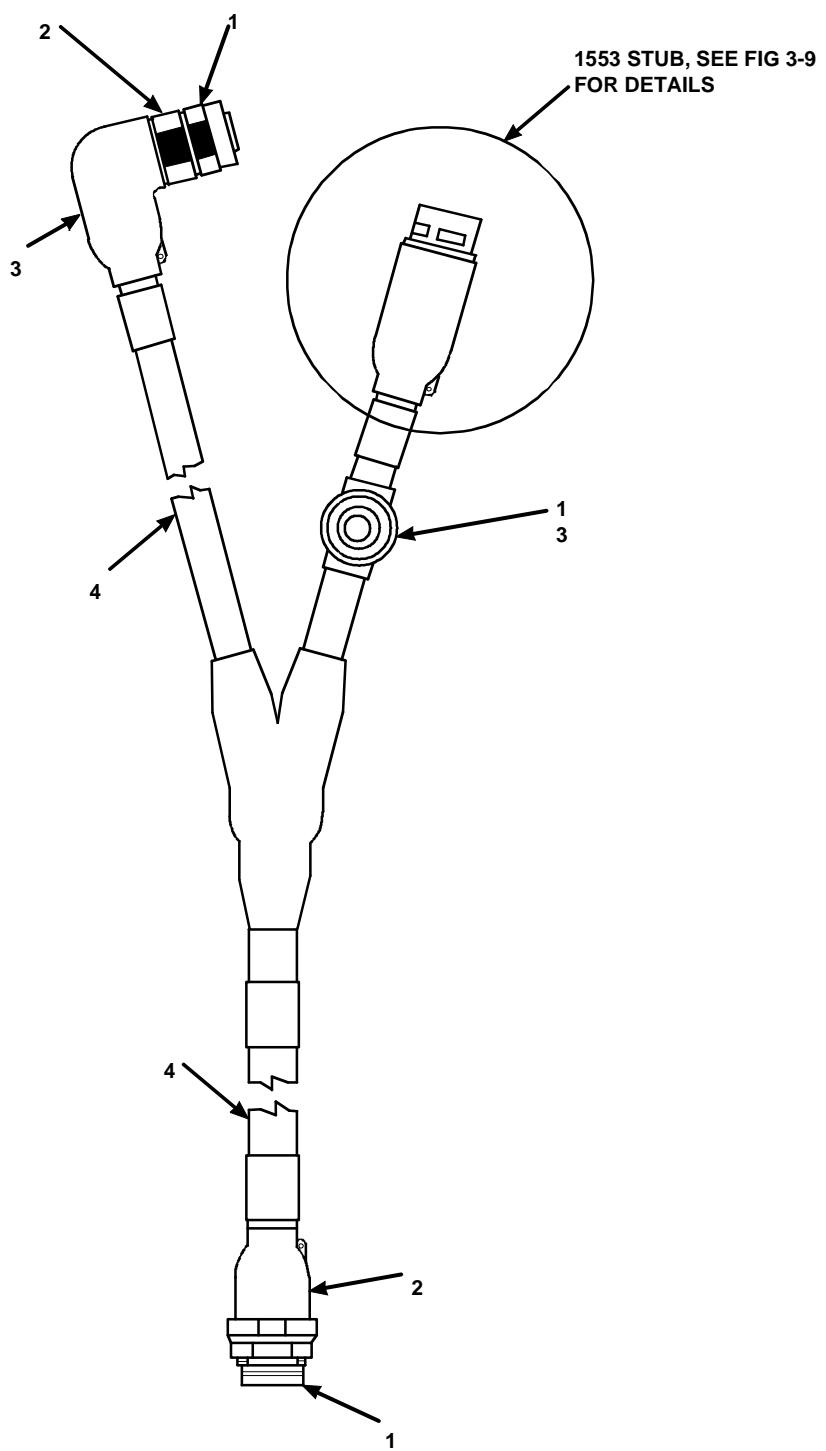

Figure 3-4. Power and Data Cable (5-Meter), P/N 12991852
3.3.4 General Repair Requirements. Refer to Figure 3-4. Repair or replace cable connectors as follows:
- n. Using small brush, clean sealing compound residue from threads of connector body (1) and backshell (2).
- o. Apply primer to threads of connector body (1) and backshell (2).
- p. Apply sealing compound to threads of connector body (1) and backshell (2).
- q. Screw backshell (2) on connector body (1) and torque to 3.7 in. lb (5 N.m).
- r. Apply S1184 adhesive to inside of boot (3) to bond with cable shield and backshell (2).
- s. Apply S1125 adhesive inside of boot (3) for bonding to cable jacket (4) and backshell (2).
- t. Place boot (3) on backshell (2).
- u. Using heat gun, apply heat uniformly to boot (3) until boot shrinks to form secure seal around backshell (2) and cable (4).
3.3.5 Inspection. Refer to Figure 3-4. Inspect Power and Data Cable (5-Meter) as follows: